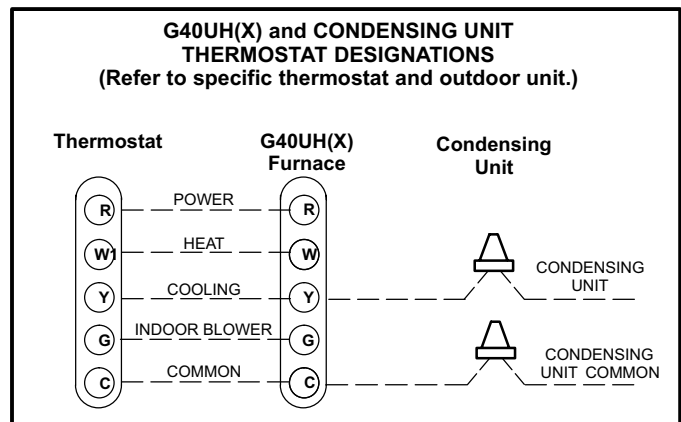

FIGURE 23
- 9 - Install the room thermostat according to the instructions provided with the thermostat. See figure 23 for thermostat designations. If the furnace is being matched with a heat pump, refer to the FM21 installation instruction.